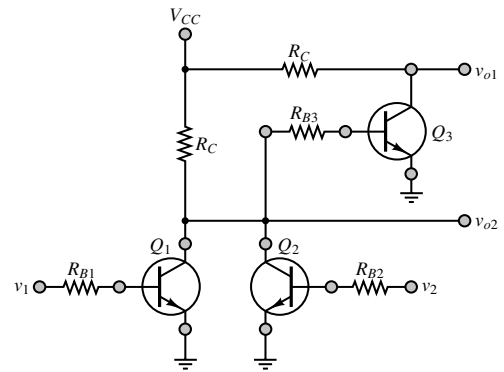

Figure P10.41
- 10.41** Show that the circuit of Figure P10.41 functions as an OR gate if the output is taken at v_{o1} .
- 10.42** Show that the circuit of Figure P10.41 functions as a NOR gate if the output is taken at v_{o2} .